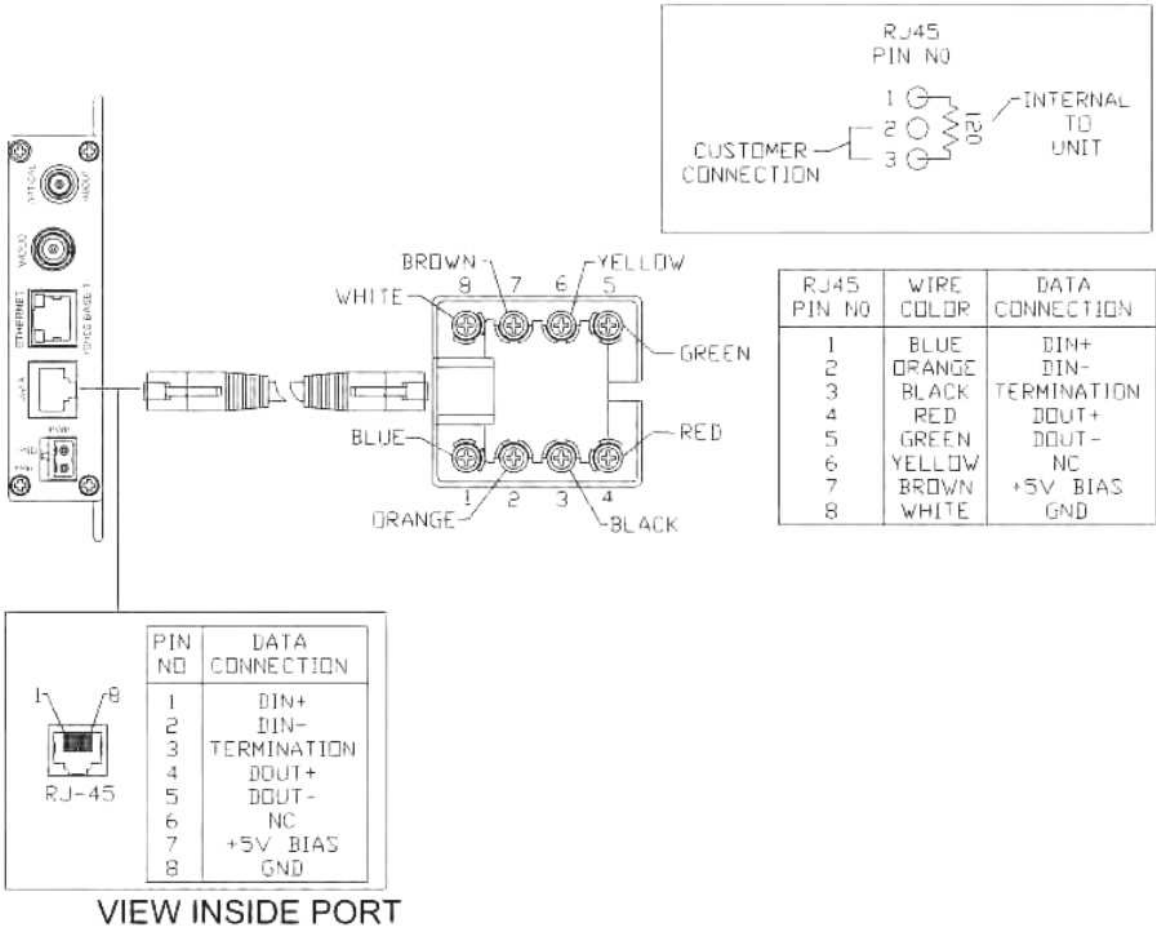

FIGURE 7 – SWITCH POSITIONS
The data channel is configured using a two position switch to operate as RS232, RS422 or RS485, either two (2) wire or four (4) wire. See **Figure 7** for details.